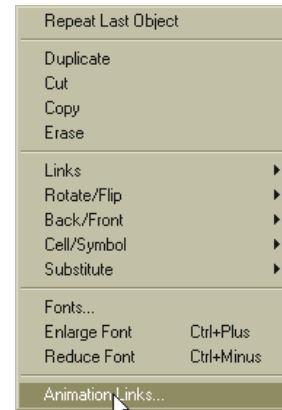

FIG. 243: WINDOWMAKER/SELECTING ANIMATION LINKS
Step 28. Place the cursor over the text entry (###.###) and right click the mouse. A list of functions appear. (See Fig. 243)